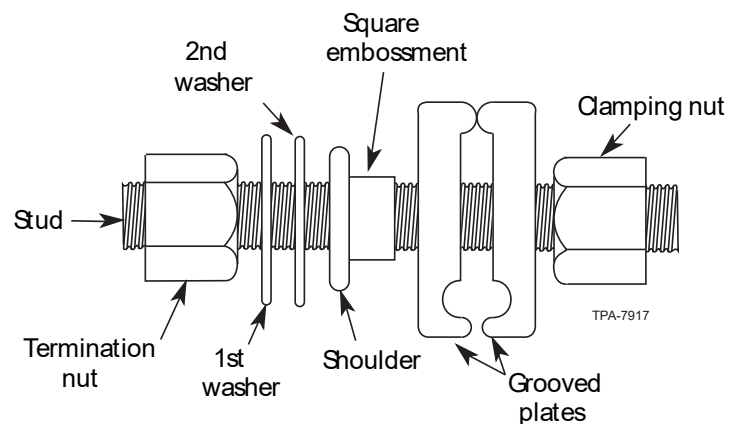

Figure 10 - Lashing wire clamp
2. If more than one cable is being lashed, install the cable positioners and pushers on the strand in their proper sequence. Install the cable positioners so that their hinges and knobs are facing you on the pole or the aerial lift (see Figure 10).